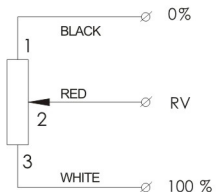

Fig. 10
- 2) Measure the resistance at pin 1 and pin 3 of the potentiometer by means of universal meter, refer to Fig. 10. Write down the R value (If no special requirement, the factory had set it to $1k\Omega \pm 15\%$).